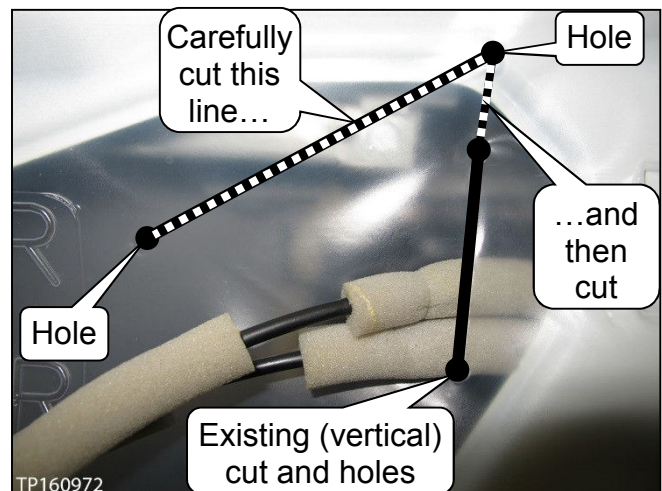

Figure 11
2. Carefully cut the line (see Figure 11) in the vapor barrier from hole to hole with a sharp suitable tool.
3. After completing step 2, make a second cut from hole to hole where shown in Figure 11.